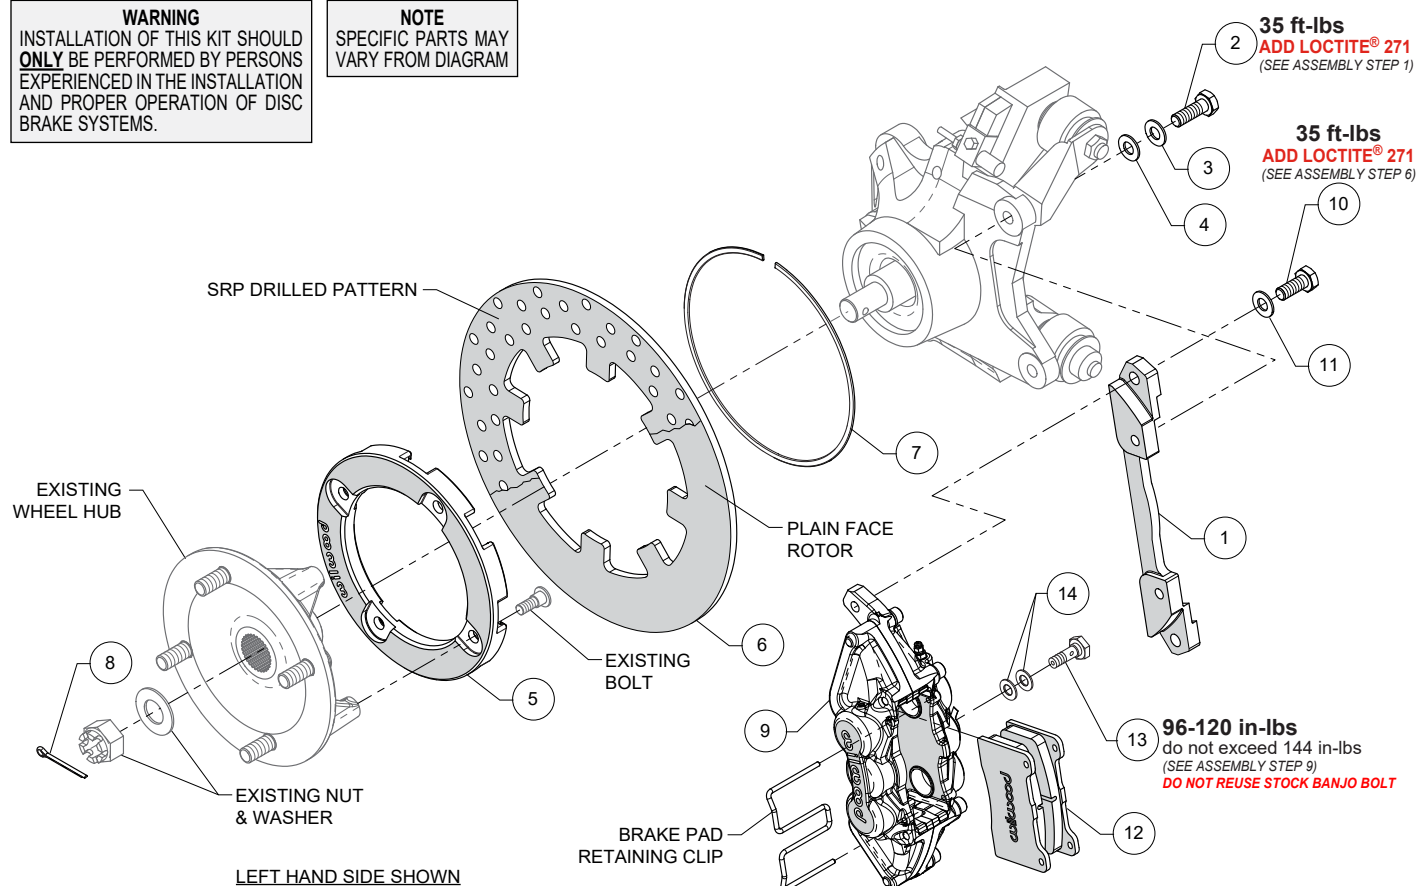

Figure 1. Typical Installation Configuration
NOTE: Numbers in parenthesis refer to the parts list and Figure 1 on the preceding pages.
STEP 1 Orient the caliper mounting bracket (1), as shown in Figure 1 and Photo 1. Install using bolts (2), washers (3), and shims (4) as shown in Figure 1 and Photo 1. Apply red *Loctite*® 271 to the bolt threads and torque to value shown in Figure 1.
STEP 2 Place the existing OEM wheel hub face down and position the rotor adapter (5) onto the wheel hub as shown in Photo 2. **NOTE:** The existing wheel hub must be free of dirt and debris or excessive rotor run out may result. Attach rotor adapter to wheel hub using existing OEM bolts, Photo 3. Torque to OEM specifications.
STEP 3 Position the rotor (6) onto the rotor adapter (5), making sure the rotor lugs fit into the recesses of the rotor adapter, as shown in Photo 4.
STEP 4 Secure rotor to the rotor adapter using the snap ring (7) by installing the snap ring into the groove of the rotor adapter, as shown in Photo 5. Carefully inspect snap ring to ensure complete engagement in the groove.
STEP 5 Grease the splines and snout of the existing wheel hub and slide the wheel hub/rotor assembly onto the axle and attach using the existing OEM washer and castle nut. Tighten to OEM specifications and secure using cotter pin (8), Photo 6.
STEP 6 Secure the caliper (9) to the mounting bracket (1) using bolts (10) and washers (11), as shown in Figure 1 and Photo 7. Apply red *Loctite*® 271 to the threads, and torque to value shown in Figure 1.
STEP 7 Remove the pad retainer clip from the caliper (9). Insert the brake pads into the caliper with the friction material facing the rotor, as shown in Photo 8. Reinstall the pad retainer clip, Photo 9.
STEP 9 Attach brake line to caliper. Connect existing OEM flexline to caliper using banjo bolt (13) and crush washers (14). Do not use lubricant or thread sealant on banjo bolt (13). Torque to minimum value shown in Figure 1. Check for leakage, increasing torque only to stop leakage without exceeding maximum specification. Replace crush washers and banjo bolt whenever reassembly is required. Wilwood offers a brake flex line hose kit to fit this application (sold separately), order **p/n 220-17627**. Hose kit includes hoses, fittings, etc., all in one package for this application. **Ensure hoses are routed to prevent contact with moving suspension, brake or wheel components.**